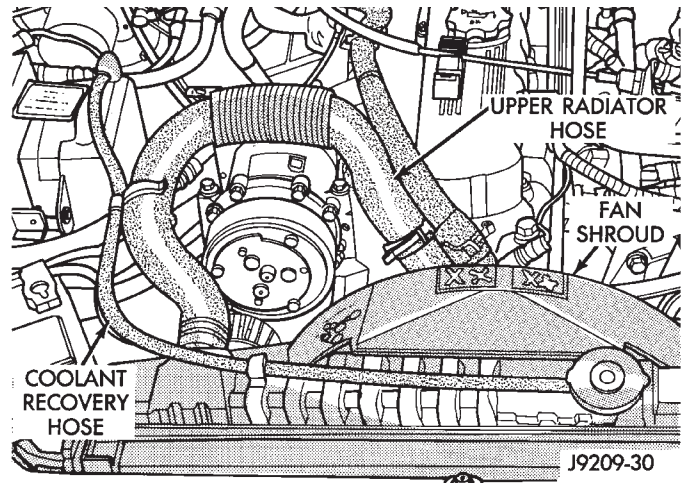

Fig. 15 Upper Radiator Hose, Coolant Recovery Hose & Fan Shroud
(3) Remove the radiator drain cock and radiator cap to drain the coolant. DO NOT waste usable coolant. If the solution is clean, drain the coolant into a clean container for reuse.
- (4) Remove the lower radiator hose.
- (5) Remove the upper radiator hose and coolant recovery hose (Fig. 15).
- (6) Remove the fan shroud (Fig. 15).